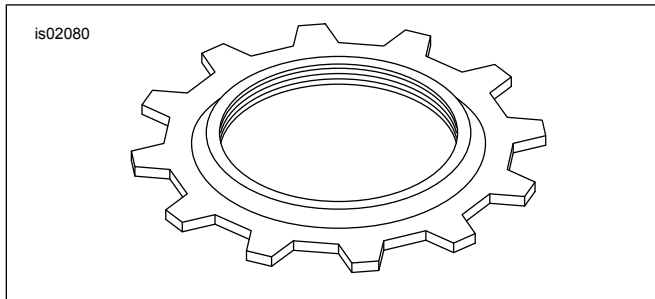
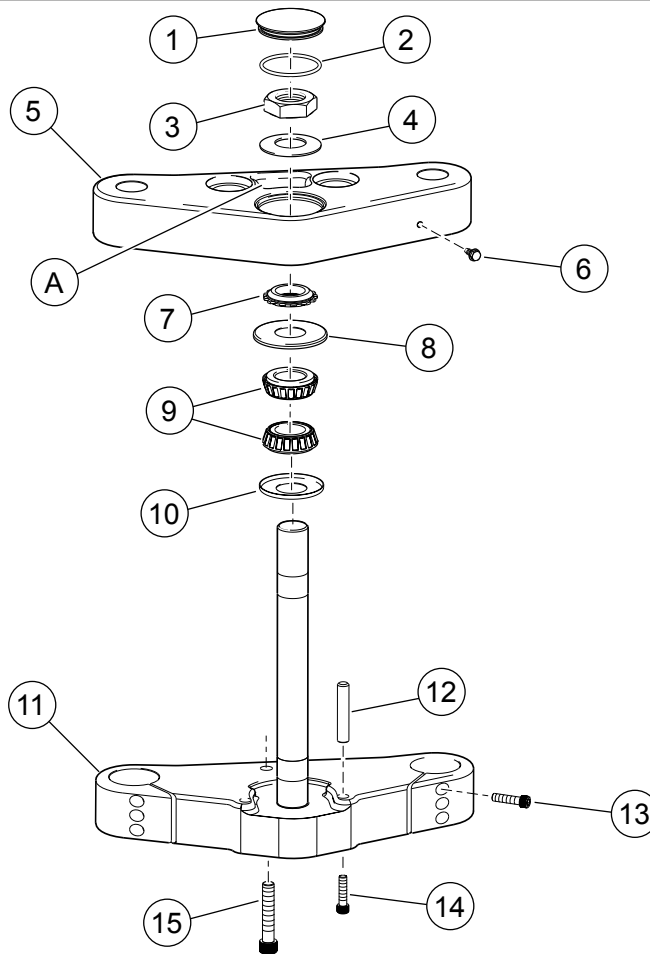

Figure 1. Adjusting Nut (Tapered Side Upward)
Figure 4. Service Parts for Chrome Front End Kit (Triple Tree)
2. See Figure 4. Obtain the two new bearings (9) from the kit and pack them with grease.
3. Slide the small lower dust shield (10) and a new bearing (9) onto the fork stem (11) as shown.
4. Insert the fork stem/billet lower triple tree (11) into the steering head on the frame from the bottom upward.
5. Slide a new bearing (9) and the larger dust shield (8) onto the fork stem.
6. Thread the adjusting nut (7) onto the fork stem, tapered side upward (See Figure 1.), flat side against the dust shield (8). Tighten the adjusting nut until the bearings show no lateral motion in their bearing cups, but not so tight that the fork stem does not move easily and freely from side to side.
11. See Figure 4. Adjust the adjusting nut (7) to set steering head fall-away according to the Service Manual instructions. Refer to the STEERING HEAD BEARINGS section in the appropriate service manual.
12. Tighten the stem nut (3) to 4.2–61 N·m (40–45 ft-lbs).
13. See Figure 4. Apply Loctite 243 (blue) to the six lower triple tree pinch bolts (13).
15. See Figure 4. Install the steering stops:
- a. Insert steering stops (12) in the left and right side holes on the top of the lower triple tree clamp.
- b. Apply Loctite 243 (blue) to the steering stop screw (14) provided in the steering stop kit.
16. See Figure 4. Install the O-ring (2) on the stem-nut cover (1).
4. Fasten the headlight assembly to the top of the lower triple tree clamp using the screw (15) (See Figure 4.) from this kit and stock lock washer. Apply Loctite 243 (blue) to the screw. Insert the screw upward through the bottom of the clamp. Tighten the screw to 33.9–40.7 N·m (25–30 ft-lbs).
- Use the self-tapping screw (6) (See Figure 4.) from this kit to fasten the loose end of the ground strap and the top P-clip to the back, right side of the upper triple tree clamp. Tighten the screw to 2.3 N·m (20 **in-lbs**).
6. See Figure 4. Route the handlebar wiring through the hole (A) in the front center of the upper triple tree clamp.